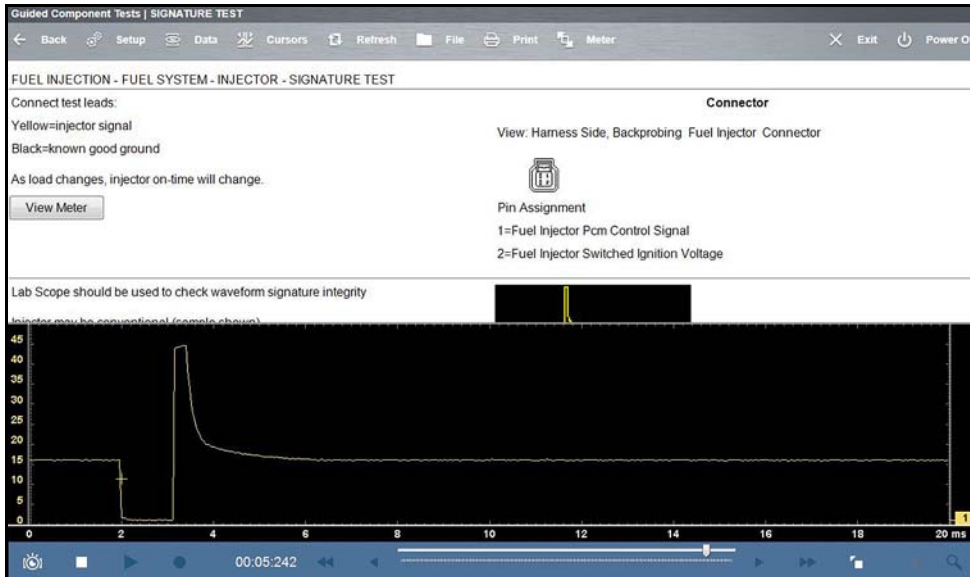

Figure 7-7 Sample view meter window
View Meter opens a live meter set up to perform the test in the lower portion of the screen (*Figure 7-7*). Once the meter view is open, the Guided Component Test toolbar at the top of the screen is replaced by the Scope Multimeter toolbar, which allows you to make adjustments to the settings. See *Scope/Meter (Upper) Toolbar* on page 99 for toolbar icon information.
The Meter icon, is only available Guided Component Test view meter mode (*Figure 7-7*).
1. With View Meter active (*Figure 7-7*), select the **Meter** icon on the toolbar once and the meter expands to fill the entire screen.
3. Select the **Meter** icon a third time to close the separate window and return to the standard meter view as shown in *Figure 7-7*.